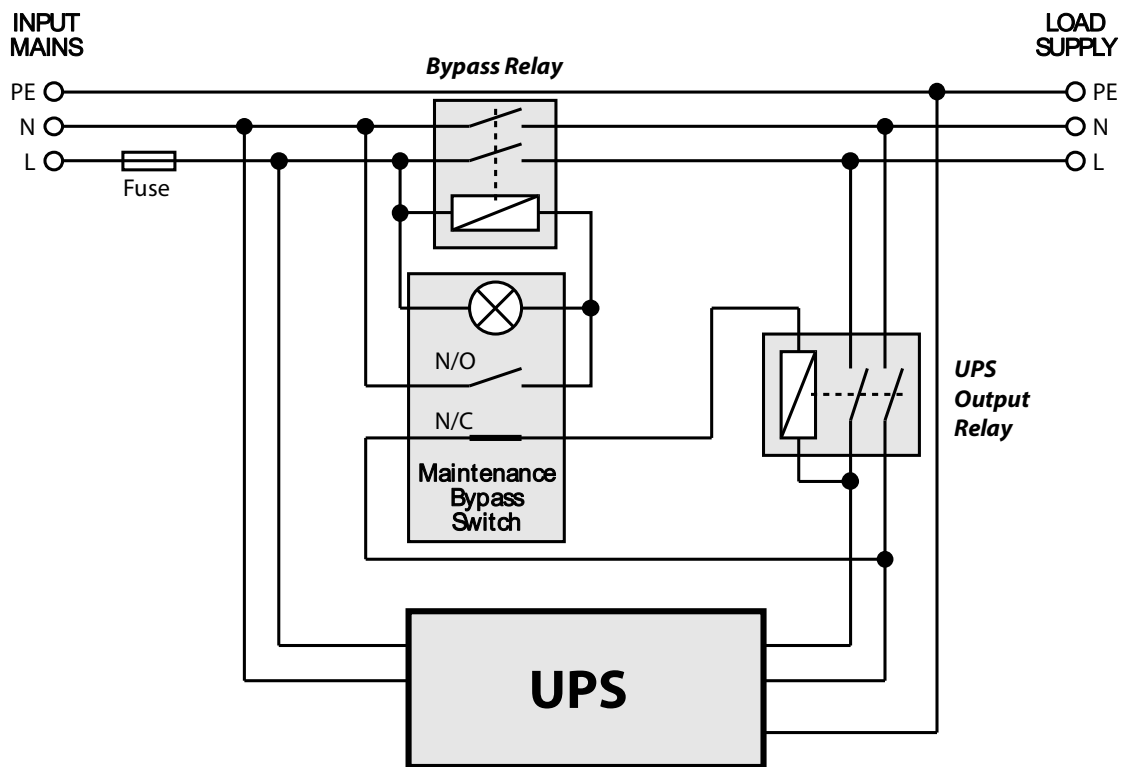

Figure 7.1 Maintenance bypass circuit
The maintenance bypass switch controls two relays, one of which is connected in the bypass circuit and the other in the UPS output line (see Figure 7.1). When the maintenance bypass switch is OPEN (0) the UPS output relay is closed, energised from the UPS output supply via a normally-closed switch contact, and the bypass relay is open. Conversely, when the maintenance bypass switch is CLOSED (1) the bypass relay is closed, and the UPS output relay is opened. This interlocking action prevents the UPS output from being back-fed from the raw mains supply.